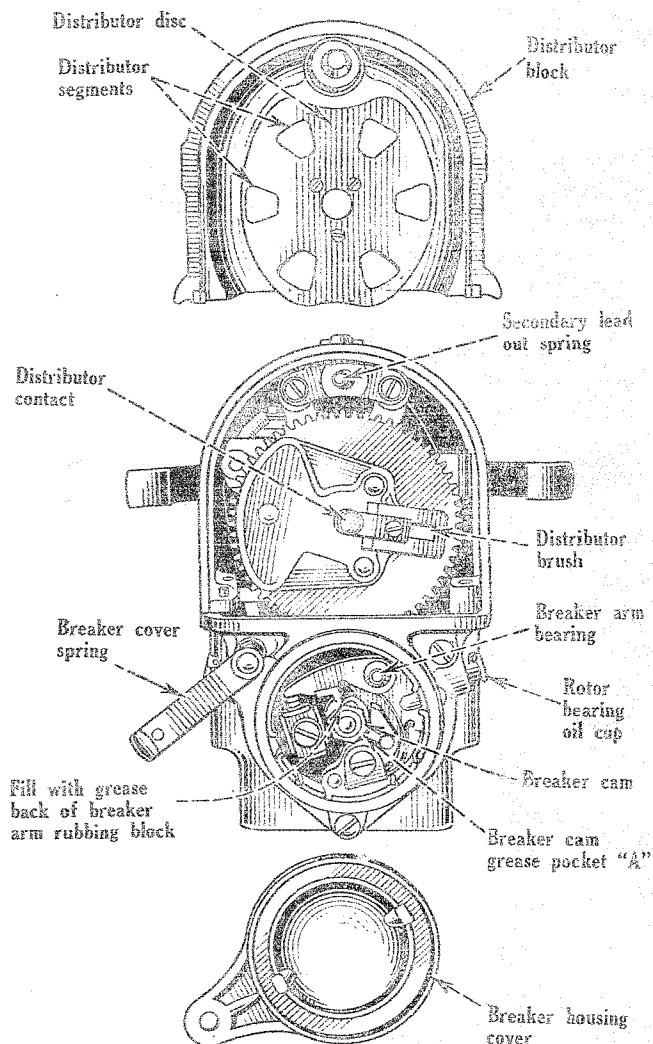

Figure 79B. Detail of Magneto Distributor and Breaker Mechanism
(1) Breaker housing cover. (2) Rotor bearing oil cup. (3) Distributor bearing oil cup. (4) Rotor bearing oil cup. (5) Impulse coupling oil cup.
(2) AFTER EVERY 240 HOURS OF OPERATION: Remove the distributor block, Fig. 79B, and clean the inside of distributor block and the face of the distributor disc with a clean cloth moistened with kerosene; then wipe dry. Moisten a cloth with engine oil and apply a light coating on the surface of the distributor disc.